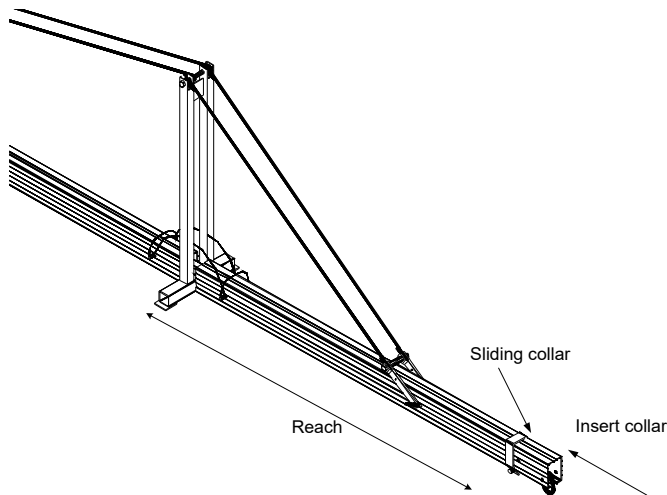

Figure 15. Reach with Sliding Collar
5. Attach the suspension cable to the Front Beam pear link or to the optional sliding collar (see Figure 15). Only one suspension cable can be attached per beam.
2. You must use a Sliding Collar (WSH 5) in order to work at less than 96" reach. Install the Sliding Collar as shown in Figure 15. Reach is calculated from the base of the Cable Truss Support.